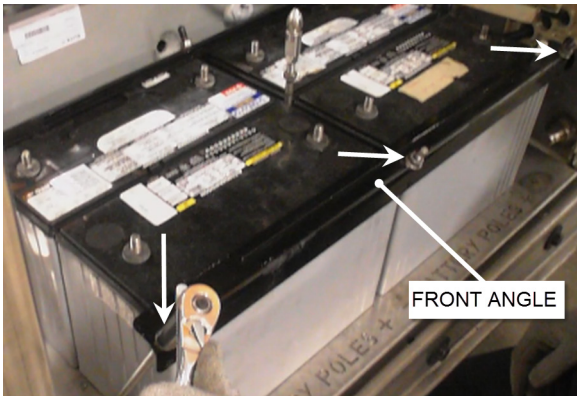

FIGURE 46: REMOVE THE FRONT ANGLE
5. Unscrew three nuts (indicated with arrows) and then remove the front angle (FIGURE 46).